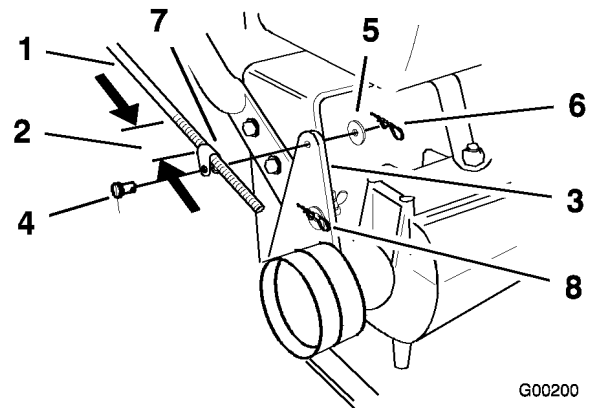

Figure 10
2. Make sure the rod fittings are equal distance onto each control rod. The rod fittings should be approximately 3-1/2 inch (89 mm) from the start of the threads for the handles lowest position (Figure 10).
3. Slide clevis pins through rod fittings and mounting holes in idler brackets (from outside) (Figure 10). Secure with washers and hairpin cottes (Figure 10).